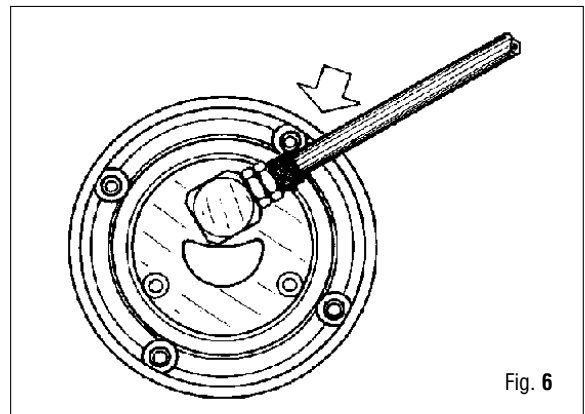

Fig. 6
1. Insert pipe (36) in the knurled part of connector (25) (knurled part facing pipe).
2. Insert pipe (36) in the connector (25).
5. Position O-Rings (24) in air connector seats (25).
6. Position O-Ring (23) in valve shaft seat (29).
7. Screw air connector (25) in valve shaft hole (29), tightening with a 9-mm wrench.
8. Place valve shaft (29) in control flange hole (30). (FIG. 6)
9. Lock valve shaft (29) with back-up ring (31).
NOTE POSITION SHEATHING AS SHOWN IN FIG. 6.